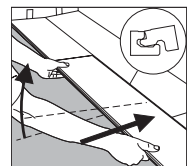

Figure 3
2. Position the first board in place by angling it up slightly, pushing forward and interlocking the side tongue. (Figure 3) Slide the board to the left as necessary to align the edges of the end joint.
6. Install the remaining boards and rows in the same manner. (Figures 3 & 4)